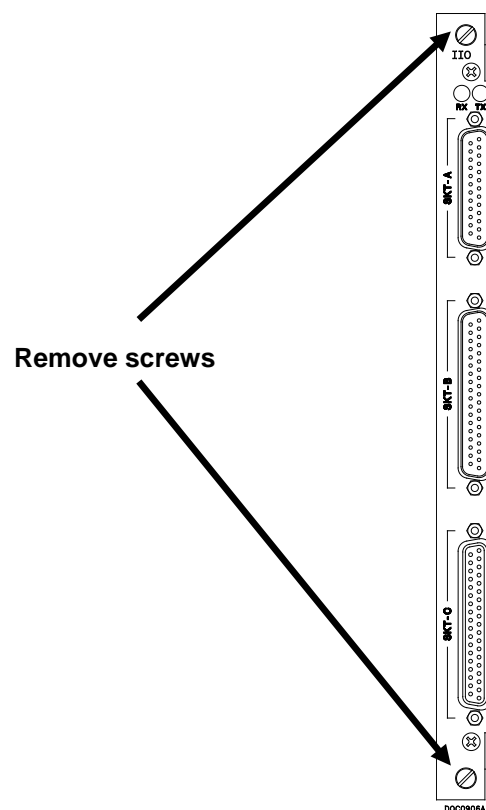

Figure 2-11. Screws on I/O Module
1. Unscrew and remove the small Phillips-head screws on the I/O module (see *Figure 2-11*).